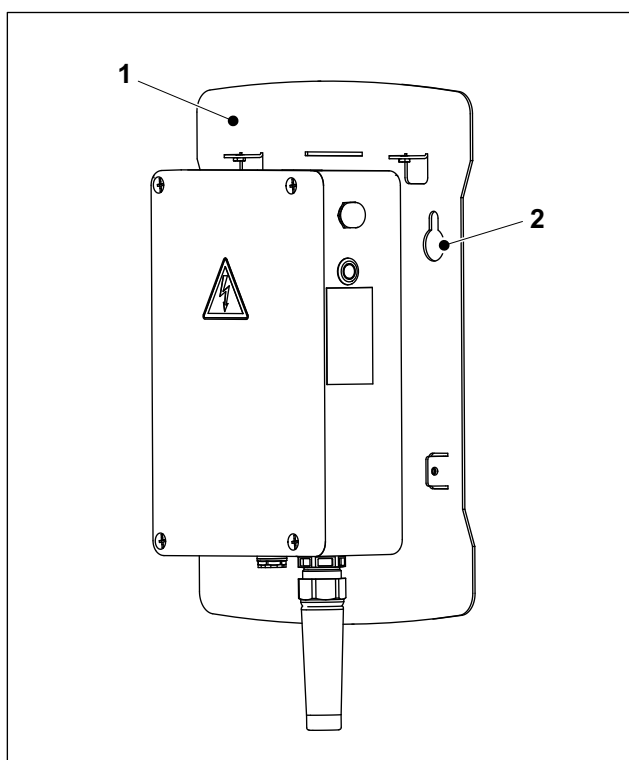
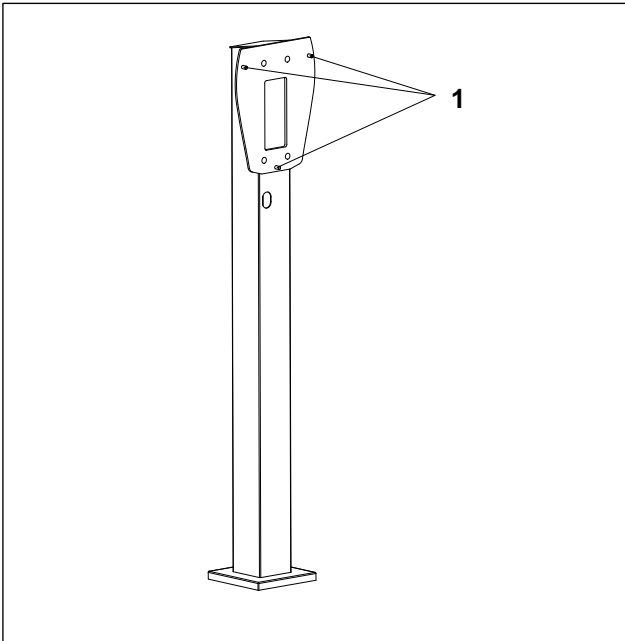

Fig. 2 Wallbox basicEVO, mounting plate
Fig. 3 Column with three attachment points
4. Hang the mounting plate (Fig. 2/1) of the Wallbox on the two fastening screws (slotted holes, Fig. 2/2).
1. Hang the mounting plate of the Wallbox (Fig. 2/1) on the three stud bolts of the column (Fig. 3/1).
2. Screw the three nuts (separate parts set for the column) on the stud bolts (Fig. 3/1) and tighten (approx. 12 Nm).